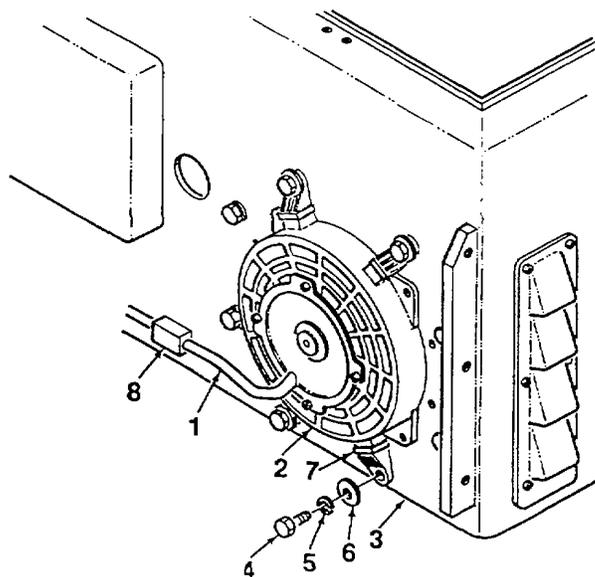

Figure 4-29. Oil Cooler Fan
1. Disconnect oil cooler fan electrical cable (1, Figure 4-29).
2. Remove oil cooler fan (2) from APU enclosure (3) by removing four screws (4), lockwashers (5), and washers (6).
3. Use care to ensure that mounting clips (7) do not separate from fan and become lost.
4. Remove electrical shielding (8) from fan cable only if replacement is required.
1. Mate oil cooler fan (2, Figure 4-29) to APU enclosure (3). Secure using four screws (4), lockwashers (5), and washers (6).
2. Feed electrical cable (1) through hole in APU enclosure (3). Connect electrical cable and ty-wrap to secure.